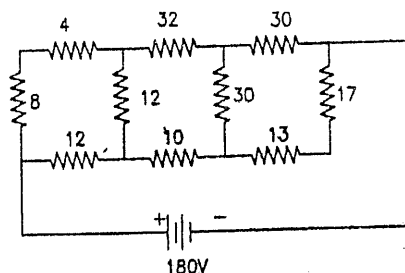

FIG. 1.194 : REFERENCE FIGURE FOR PROBLEM NO. 17
17. Determine the current in $10\ \Omega$ resistor in the network of Fig. 1.194 using Thevenin's theorem. [3.98 A]